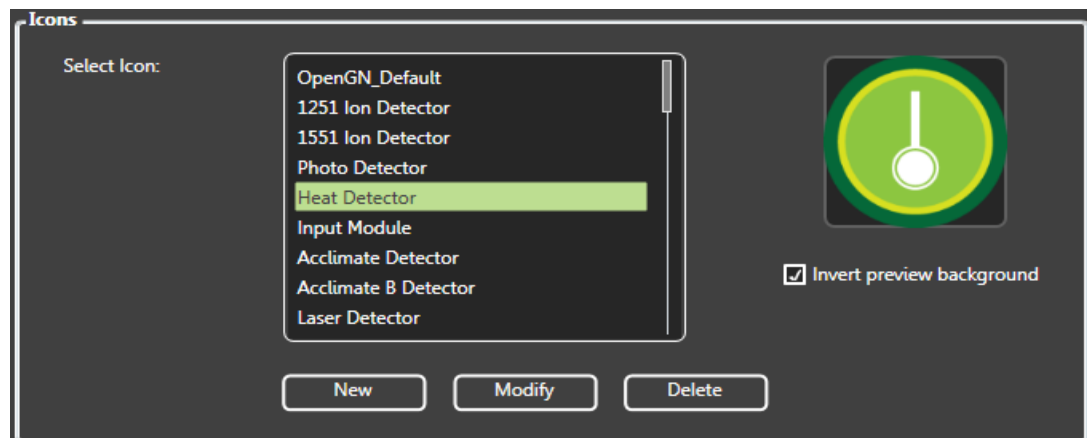

Figure 41 Icon Selection
4. Select an icon from the list of available icons (see Figure 41 on page 65).